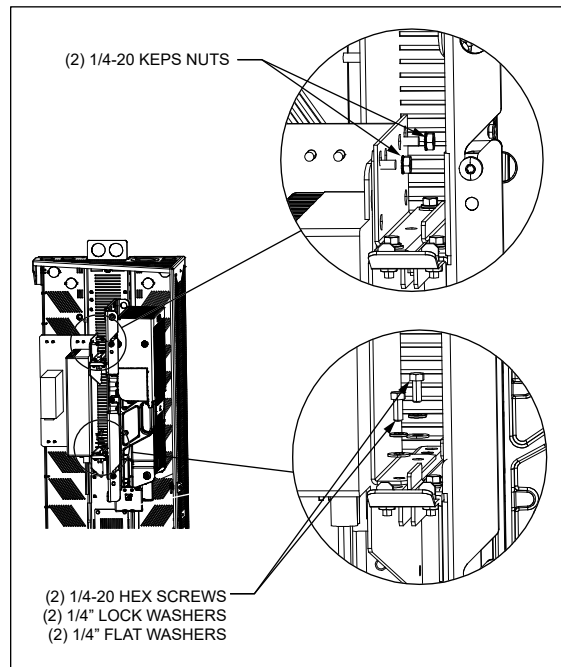

Figure 12
5. Attach the power supply mounting bracket to the left side of the hanging brackets (Figure 12).